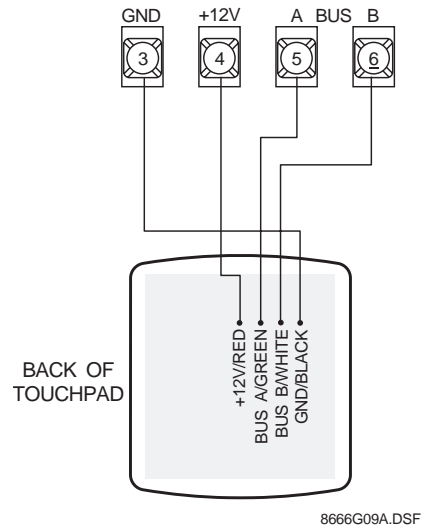

Figure 3. Wiring the Touchpad to the Panel
4. Connect the touchpad to the panel terminals as shown in Figure 3.